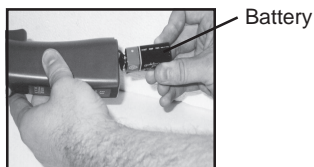

Figure 4
2. Insert the replacement DC 9V Battery into the Battery compartment (F). **DISPOSE OF OLD BATTERIES PROPERLY.** Never put batteries into a fire. Contact local Hazard Waste Disposal authorities for proper guidelines. Replace cover. See Figure 4.